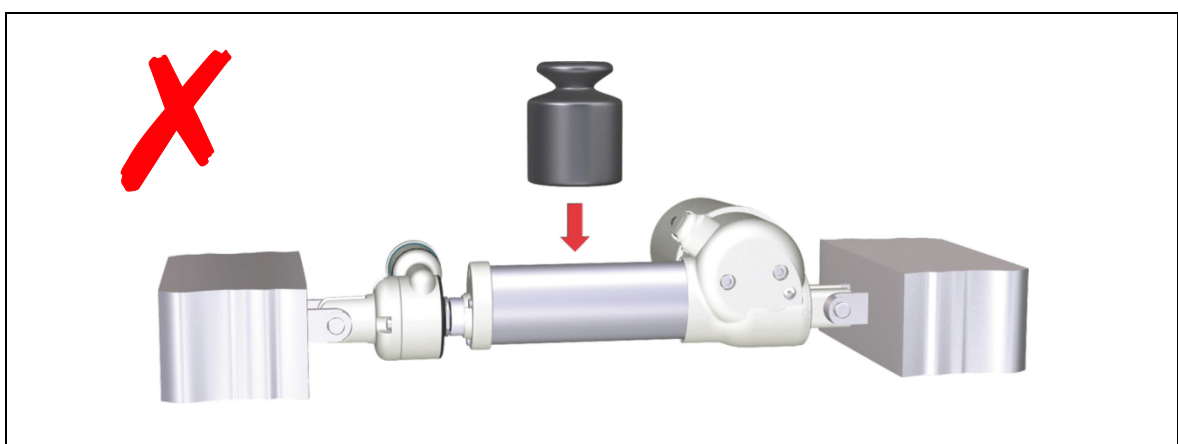

Figure 22 The effect of the installation position
- The release force will increase, for example, if the drive unit is subjected to a lateral force from other attachments. The resulting release force may be far over the specification. (Figure 22 shows a horizontally installed drive unit with a lateral force acting upon it.)